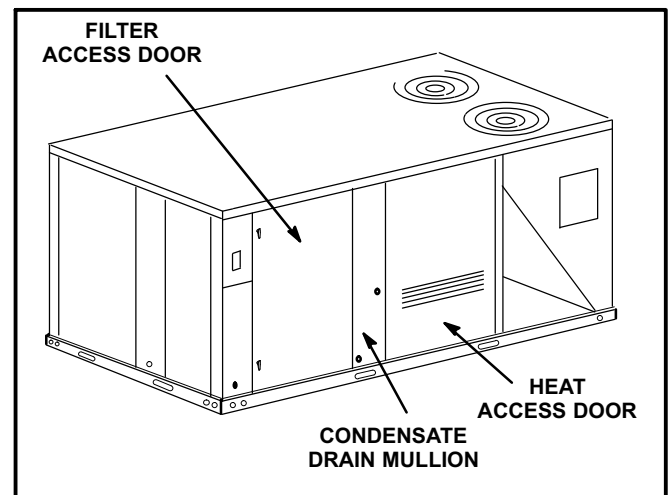

FIGURE 5
- Remove heat access door. See figure 5.
- 1- Remove heat access door. See figure 5.